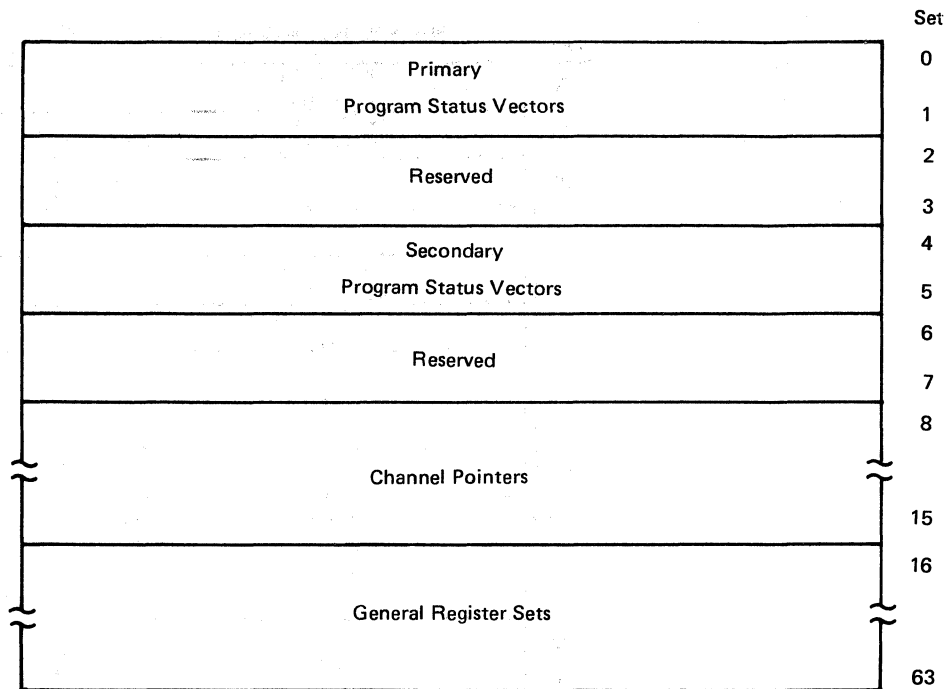

Figure 7-1. Principal Register Sets
- Four sets are reserved (see Figure 7-1).
The remaining register sets contain general register sets that are assignable to programs. Figure 7-1 shows the organization of the principal register sets.